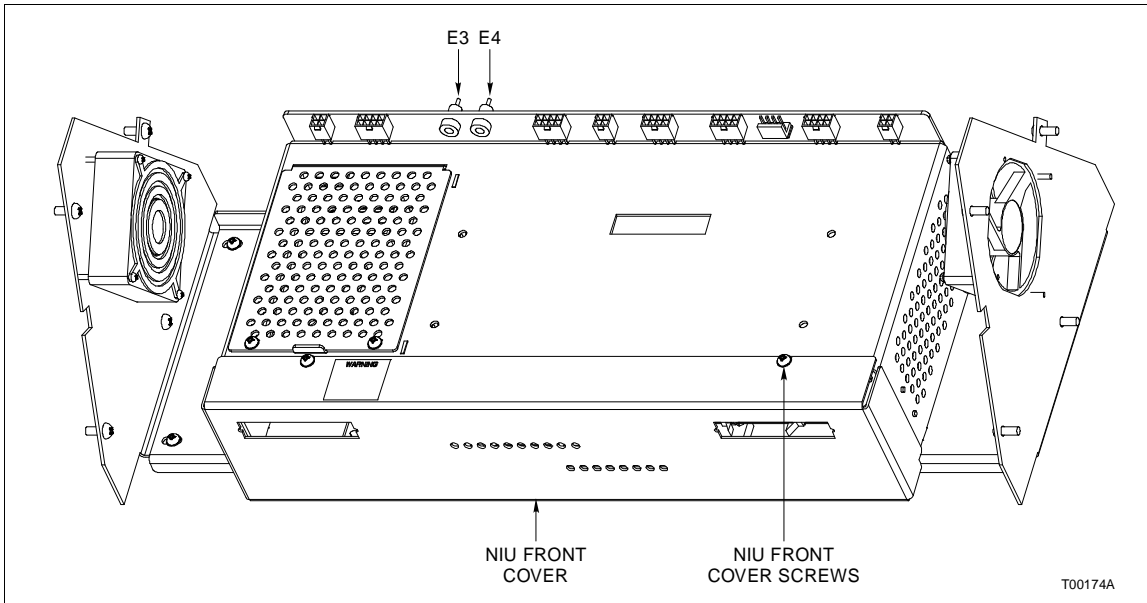

Figure PR35-1. NIU Card Cage with Covers Installed
- 3. Use the Phillips head screwdriver to remove the two NIU front cover screws (Fig. PR35-1).